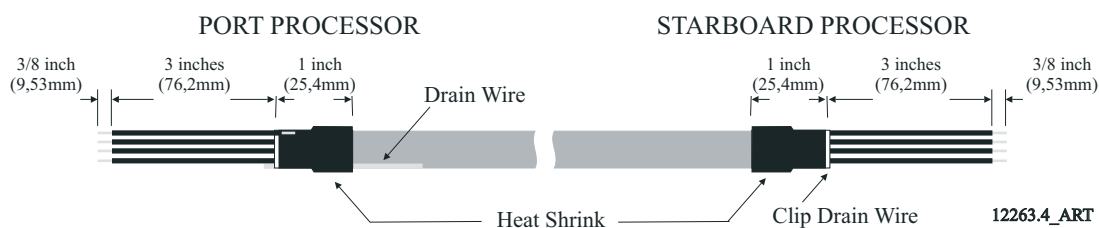

Figure 4-12: Four-Conductor Serial Communication Cable
- G On the Port end of the cable, bend the drain wire back and tuck it under the shrink tubing so that the drain wire end is exposed past the shrink tubing. (Refer to Figure 4-12: Four-Conductor Serial Communication Cable)